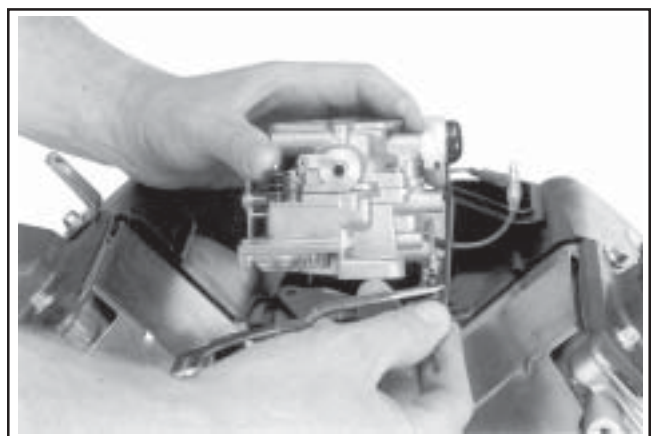

Figure 9-28. Removing Carburetor Assembly with Governor Lever Attached.
3. Remove the carburetor, throttle linkage and governor lever as an assembly. See Figure 9-28.